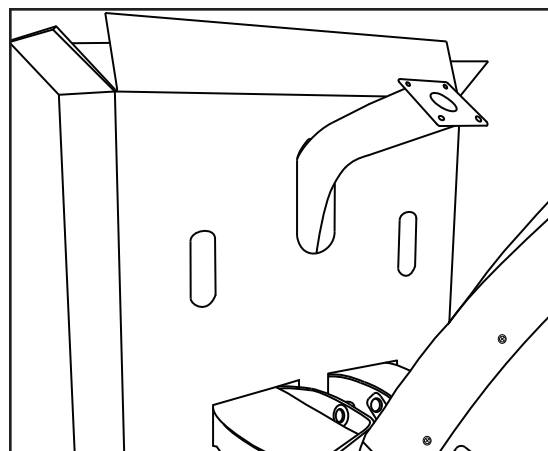

Figure 4
- 3-1 Using the box knife, open the top of the box holding the Console/Upper mast weldment (see Figure 4).